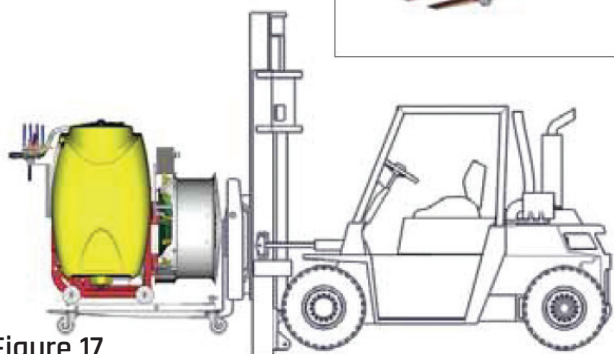

Figure 17
1.) The level in the oil bottle should be between the lower and upper limit. (Figure 17)